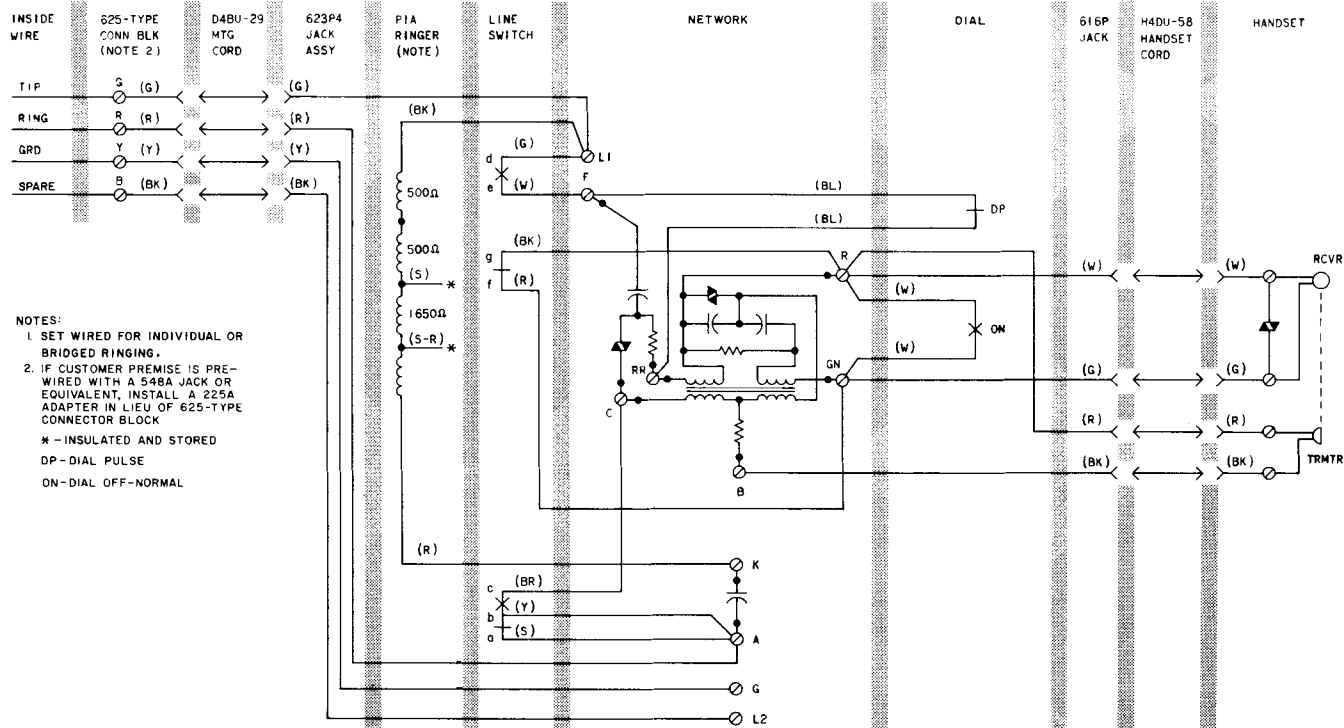

Fig. 2—882A200 Telephone Set, Connections
2.02 The 882B200 telephone set differs from the 882A200 telephone set only in the line switch and associated wiring (Fig. 2, 3, and 4).
3.02 The internal connections for the 882A200 telephone set are shown in Fig. 2 and 3.